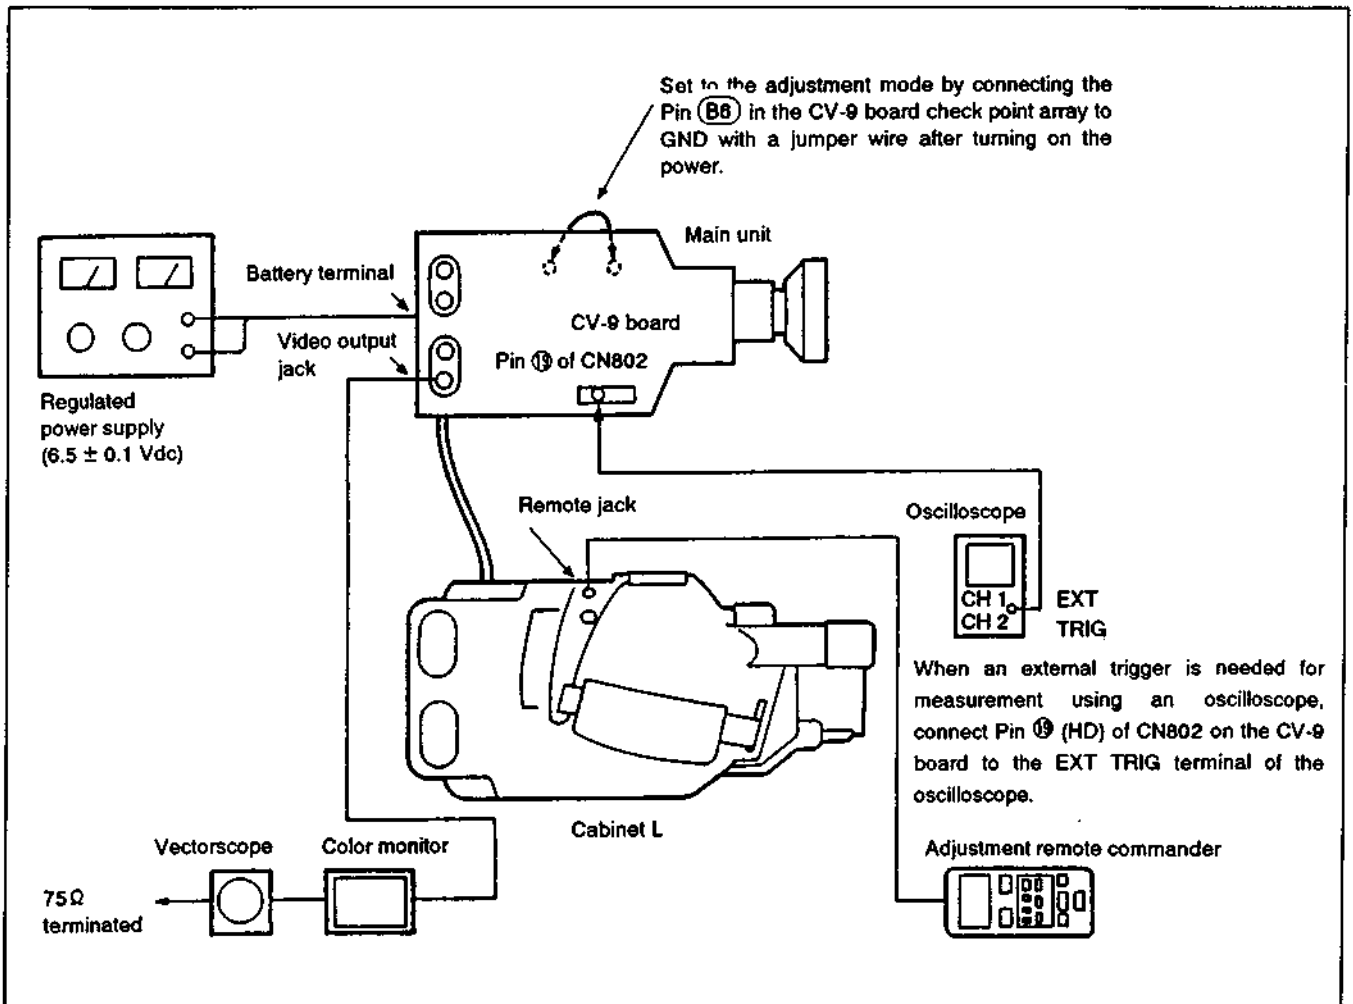

Fig. 7-3.
- 1) Connect the various devices for adjustment as shown in Fig. 7-3.